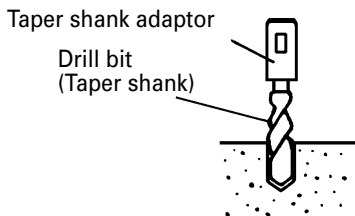

Fig. 13
- (1) Install drill bit with taper shank in the taper shank adaptor. (Fig. 13)